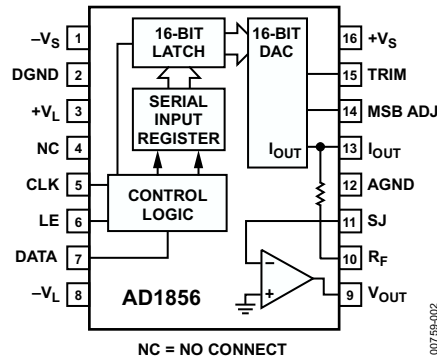

Figure 2. Pin Configuration
| Deleted 16-Lead DIP (N) Package | Universal | Changes to Figure 2 and Table 3..... | 6 |